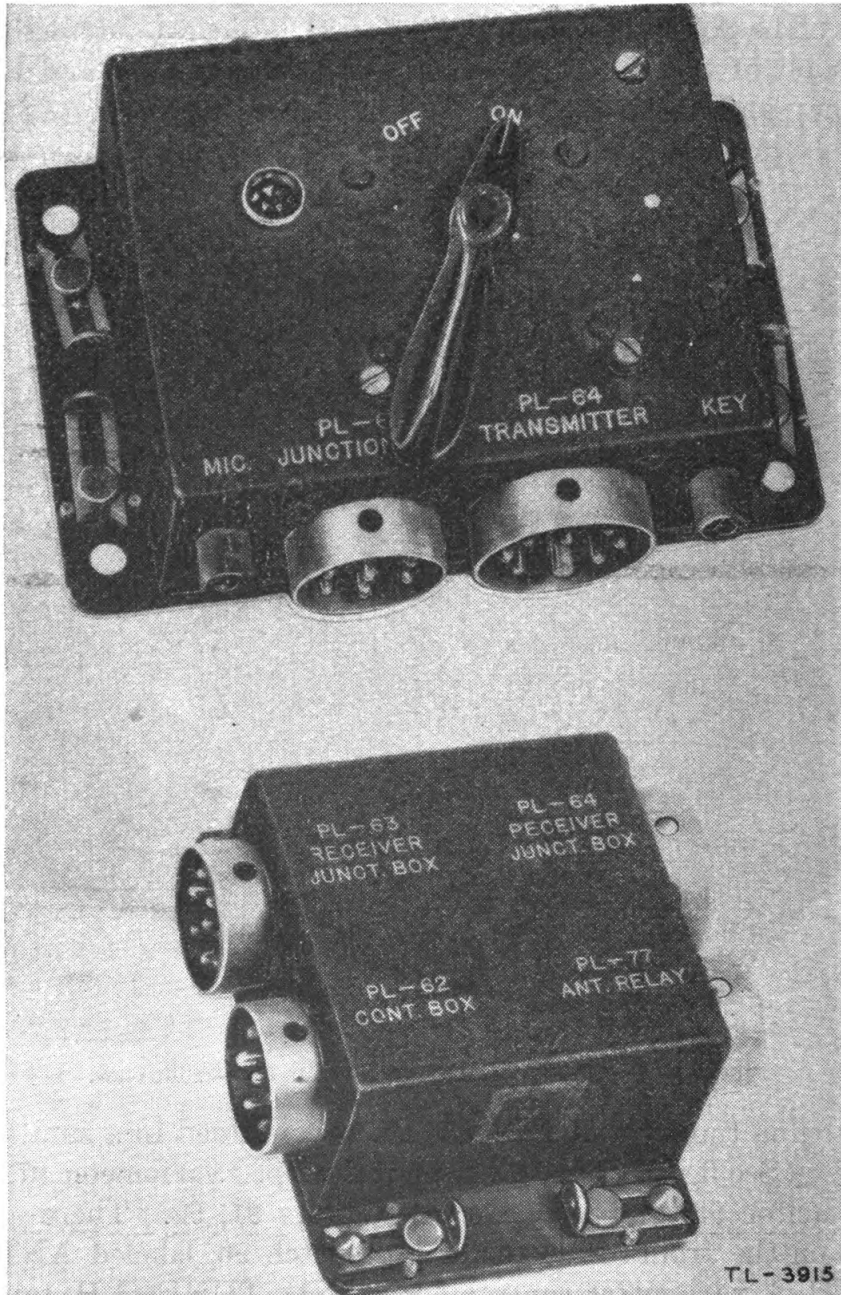

FIGURE 28.—Radio control box BC-AA-192 and junction box TM-AA-160.
50. Radio control box BC-AA-192.—The control box (fig. 28) contains an OFF ON switch 73, a key jack 74, a microphone jack 75, and sockets 71 and 72 for plugs PL-62 and PL-64 for cording. Some models also include a pilot light and an a-c d-c switch. The box is attached to a type FT-112 mounting by four snap slide catches.